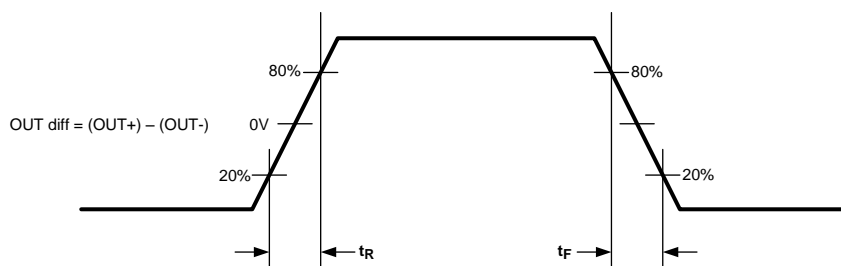

Figure 2. Output Transition Times
| V OD  | Output Differential Voltage Level (3) , <a href="#">Figure 2</a> | Differential measurement with OUT+ and OUT- terminated by 50Ω to GND, AC-Coupled, VOD_SEL = open (1.0 V p-p ), DE_SEL = GND            | 750 | 970  | 1150 | mV p-p |
| t R , t F                                | Transition Time   | 20% to 80% of differential output voltage, measured within 1" from output pins. <a href="#">Figure 2</a>  | 30  | 38   | 45   | ps                |